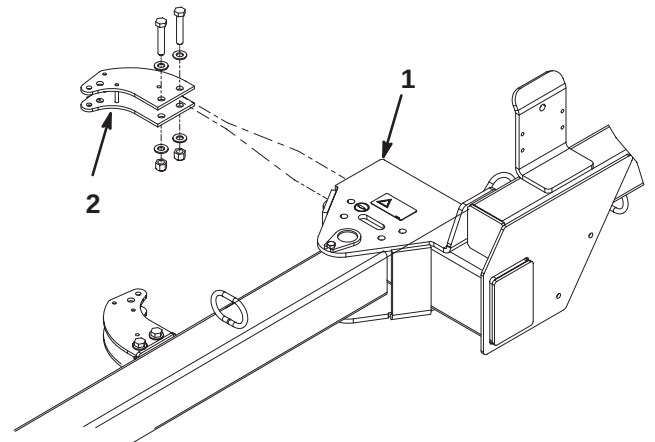

Figure 3
1. Mount the rear actuator tab to the sweeper frame with (2) 1/2-13 x 2-3/4" lg. capscrews, (4) .531 x .063 flat washers and a 1/2-13 locknut. Position components as shown in figure 3.